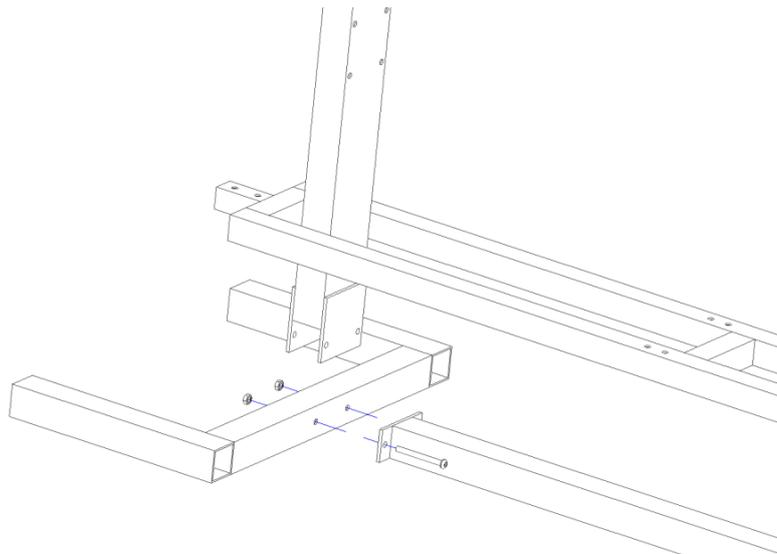

Figure 4
Place the rear base ⑥ next to the bottom bar ①, as shown above (figure 4). Then put the see-saw ④ on top of both parts and insert the post ③ through the see-saw ④, (see figure 4). Connect the bottom bar ①, post ③ and rear base ⑥ using the two M8×80 hexagon-socket bolts ⑫ and M8 nuts ⑪.